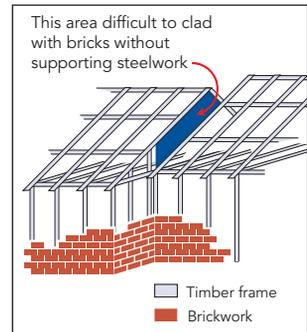

Figure 1 Steps and staggers can lead to difficulties with cladding
1. Avoid steps and staggers with framed systems if using a heavy cladding such as brickwork. With conventional construction, brickwork between the roof of one dwelling and the verge of the adjacent dwelling is built off the party wall. With framed construction, brickwork cannot be supported on the frame of the party wall making detailing of the cladding difficult (see Figure 1). An alternative approach is to use lightweight cladding systems.